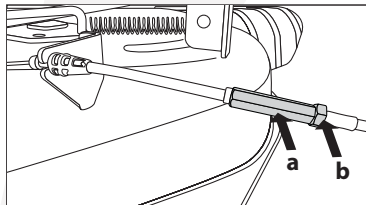

Fig.28
1. The deck cable is set at the factory with no exposed threads showing behind the jam nut (b).(Fig.28)